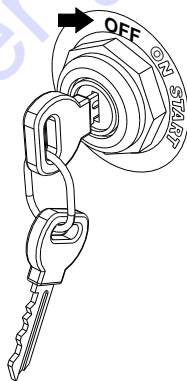

Figure 29. Ignition Switch (OFF)
4. Place the ignition switch key (Figure 29) in the OFF position
3. Place the ignition switch key (Figure 29) in the OFF position.